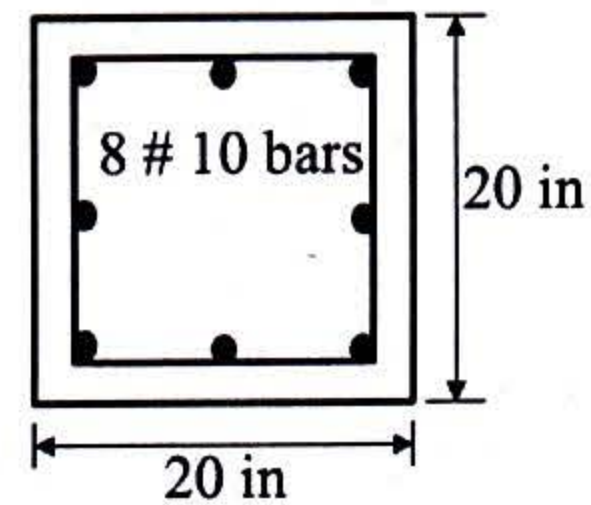

Figure: 01
1. Figure: 01 shows the cross-section of a reinforced concrete column. (20)